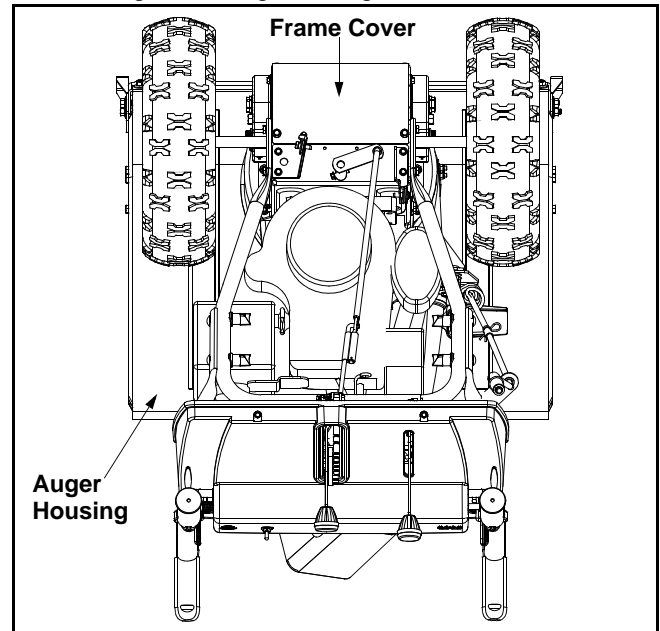

Figure 9
- Tip the snow thrower forward, allowing it to rest on the auger housing. See Figure 9.